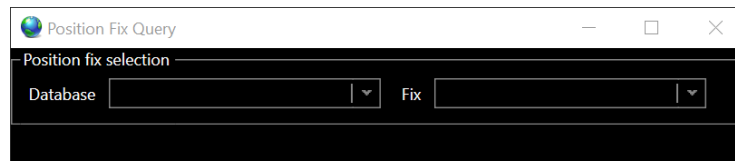

FIGURE 14-127 POSITION FIX QUERY DIALOG
1. Select Query from the Data ribbon or Explorer, this opens the Position Fix Query dialog, see Figure 14-127